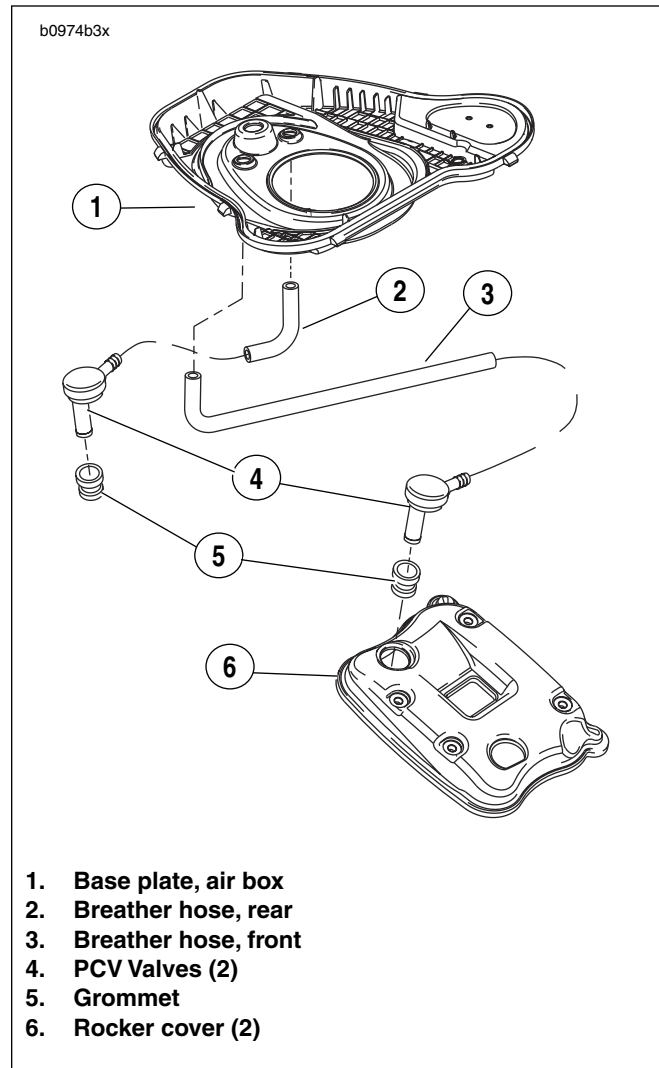

Figure 3-117. Crankcase Breathing System,
See Figure 3-117. Air is allowed to escape the rocker boxes by exiting the positive crankcase vent (PCV) valves (4) located on top of the rocker boxes. From the PCV valves the air enters the crankcase breather hoses (2 & 3). The crankcase breather hoses route through the air cleaner base plate (1) to the air box where it is directed inside the air filter element and back into the engine.